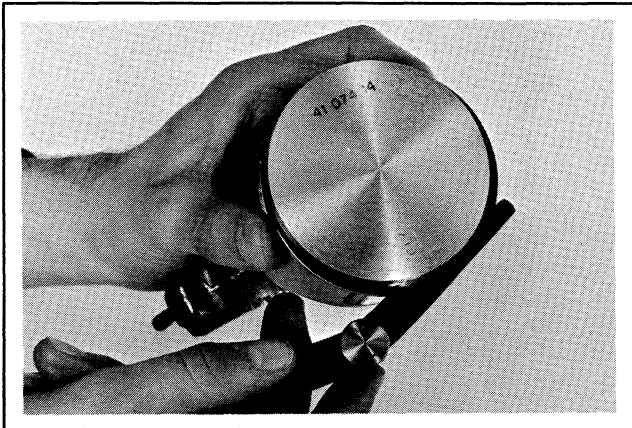

Figure 10-14. Measuring Piston Ring Side Clearance.
- After installing the new compression (top and middle) rings on piston, check piston-to-ring side clearance. Maximum recommended side clearance is .006". If side clearance is greater than .006", a new piston must be used. Refer to Figure 10-14.